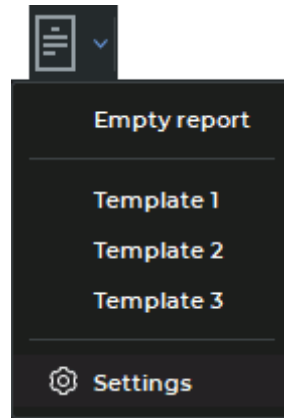

Figure 17.4: Drop-down menu of the **Report** button
1. Select a study on the study panel. Select a study series on the series panel. Click the arrow on the right-hand side of the **Report**  button on the toolbar and select the **Empty report** option on the drop-down menu (see Fig. 17.4).
To create a new report in the **Image viewer** tab, select a series on the series panel. Then click the arrow on the right-hand side of the **Report**  button on the toolbar and select the **Empty report** option on the drop-down menu (see Fig. 17.4).
To create a report on the basis of a template, select a series thumbnail and click the arrow on the right-hand side of the **Report**  button on the toolbar. On the drop-down menu that pops up (Fig. 17.4), select the required template from the list. An editor window for reports based on templates will be displayed on the screen. For details on templates (their creation, editing, saving, and export) see Section 17.3.